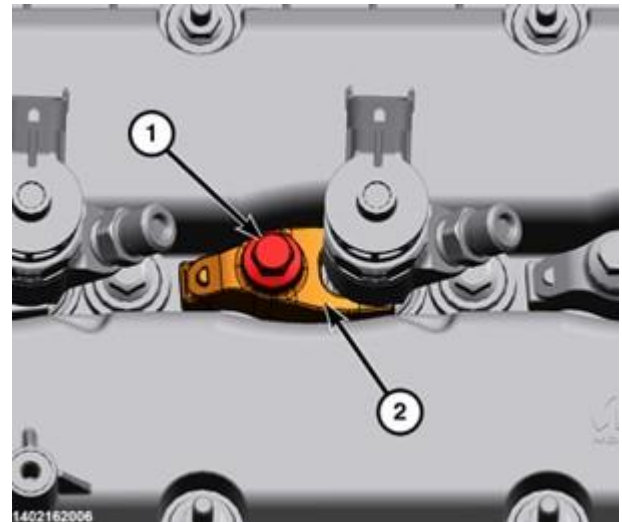

Figure 132 – Fuel Injector Clamps
71. Remove the fuel injector clamp bolts (1) and the fuel injector clamps (2) (Figure 132).